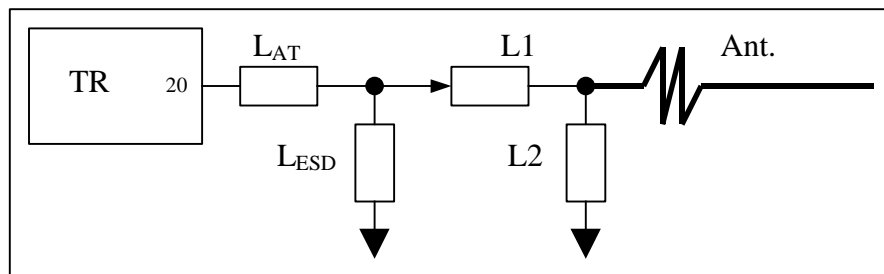

Fig. 9
b). For the TR3001 and TR3003: The  $L_{AT}$  and the  $L_{ESD}$  together matched the impedance of the TR to 50 ohms. The  $L_{ESD}$  is not only a ESD chock. In such case the connection with the antenna should follow the Fig. 9.